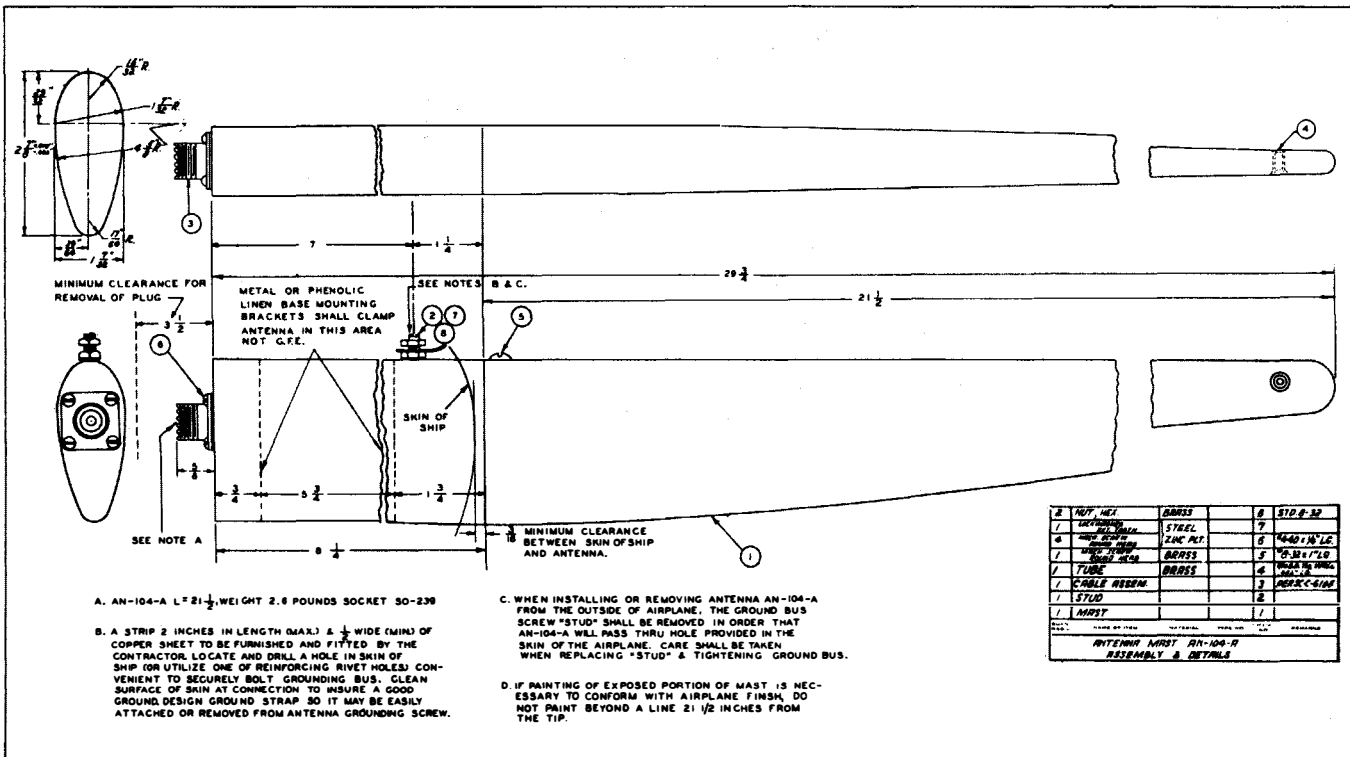

Figure 2-8. Antenna Mast AN-104-A—Outline Dimensions
e. ANTENNA MAST AN-104-A OR AN-104-B. (See figure 2-8.)
(1) Mount this antenna mast vertically on a part of the aircraft where there are no projections that might